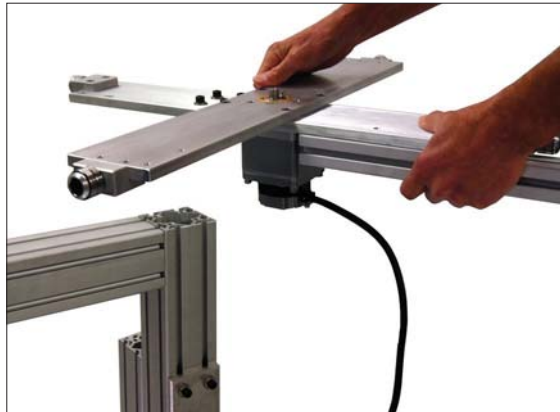

Fig. 9
2. Set the base and column assembly upright. Orient the cross-frame/motor assembly to the column assembly, as shown in Fig. 9 and 9a below. Assemble using the four (4) SHCS. Use the 1/4" hex key.